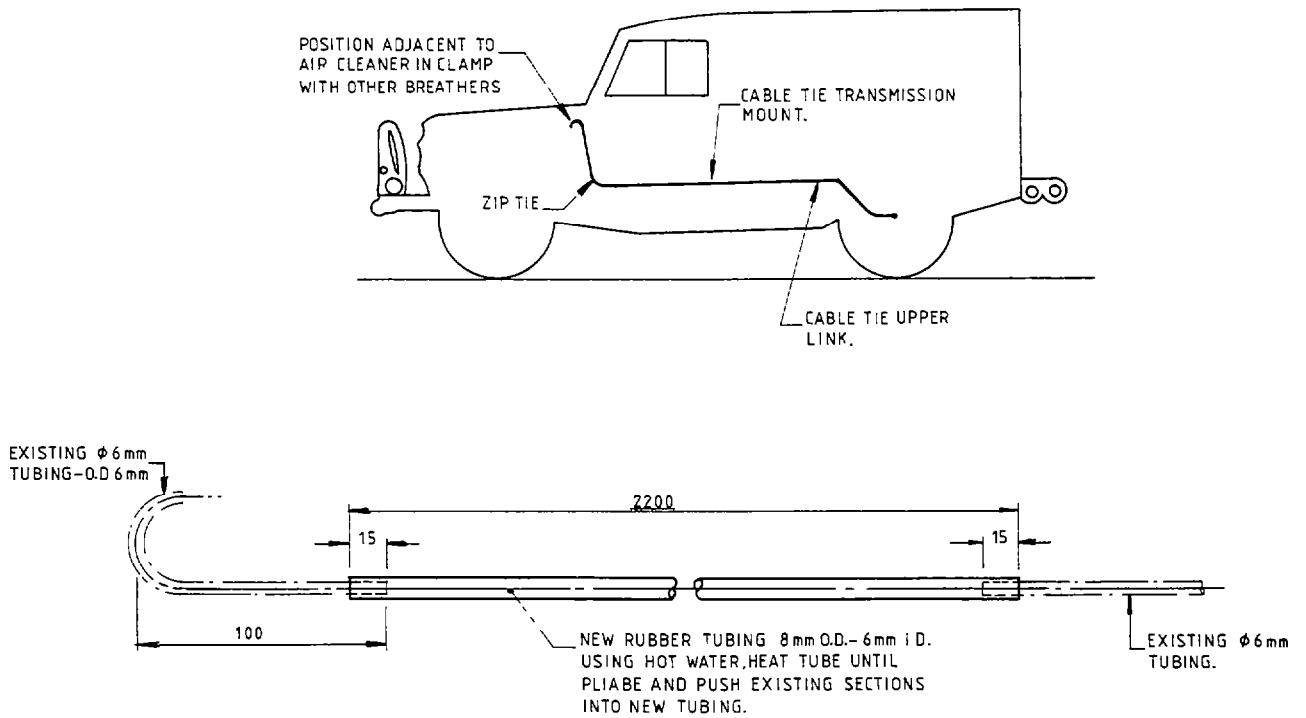

Figure 2 - Fitting of Rear Axle Breather Section
13. Rework the Land Rover 4x4 rear axle breather as follows, with reference to Figure 2: